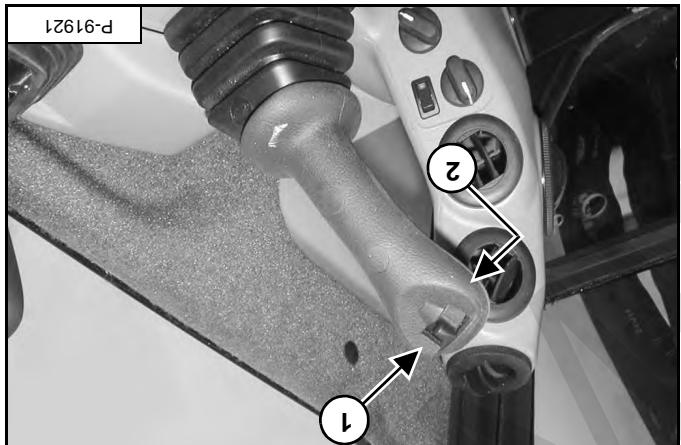
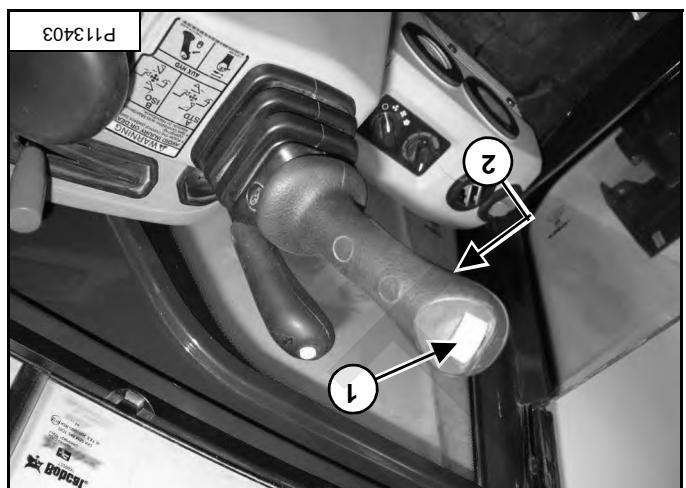

Figure 116
Figure 115
Continuous (Detent) Reverse Direction Operation: For continuous flow [Figure 115] on the right control lever move the switch (item 1) [Figure 115] on the right control lever to the right to start auger rotation in the clockwise direction. Let go of both switches and the auger will continue to rotate in the clockwise direction. To stop auger rotation press the switch (item 1) to the left and then press the switch (item 2) once. Let go of both switches and the auger will continue to rotate in the clockwise direction. To stop auger rotation press the switch (item 1) to the left and then press the switch (item 2) a second time or press the switch (item 1) [Figure 116] to the right.
[Figure 116] a second time to stop auger rotation. Press the front switch (item 2) [Figure 116] a second time to stop auger rotation. Press the front switch (item 2) [Figure 116] on the front control lever for constant flow of fluid to the female coupler. The auger will rotate for constant flow of fluid to the male coupler. The auger will stop rotating when the front switch (item 2) is released.
Move the switch (item 1) [Figure 116] on the right control lever to the left to rotate the auger in the counter-clockwise direction or left to start auger rotation in the clockwise direction. Lever for constant flow of fluid to the male coupler. The auger will rotate for constant flow of fluid to the female coupler. The auger will stop rotating when the front switch (item 2) is released.
[Figure 115] a second time to stop auger rotation. Press the front switch (item 2) [Figure 115] on the front control lever for constant flow of fluid to the male coupler. The auger will rotate for constant flow of fluid to the female coupler. The auger will stop rotating when the front switch (item 2) is released.
Move the switch (item 1) [Figure 115] on the right control lever to the right to start auger rotation in the clockwise direction. Lever for constant flow of fluid to the male coupler. The auger will rotate for constant flow of fluid to the female coupler. The auger will stop rotating when the front switch (item 2) is released.